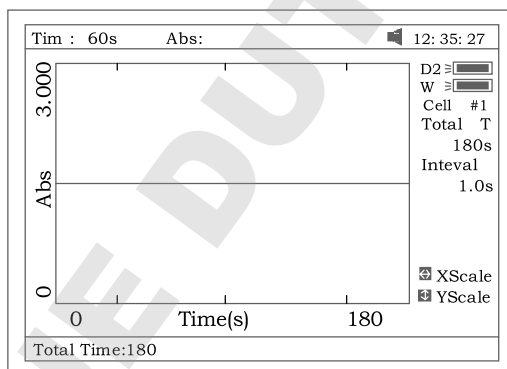

Fig 53
1. Press **[F1]** to set “Total Time”, ”Delay Time”, ”Time interval”, and input the value by pressing the numeric keypad (Fig 53).